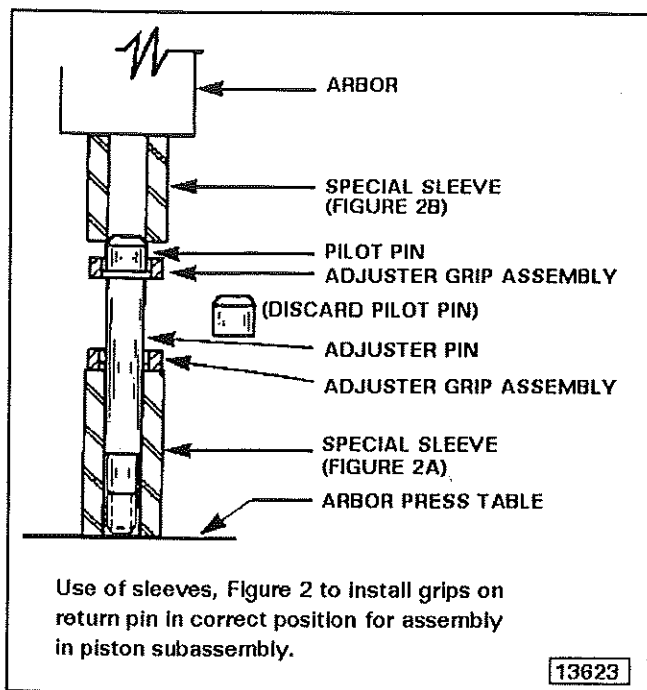

FIGURE 9 - INSTALLING ADJUSTER GRIPS ON ADJUSTER OR RETURN PIN
a. Position the adjuster grip and pilot pin (12) on the end of an adjuster or return pin (6).
b. Press the adjuster grip off the expendable pilot pin on to the adjuster or return pin as shown in Figure 9.
a. Install the inner spring guide (13) in the piston cavity.
b. Install the pilot pin (12) with grip assemblies installed on the adjuster or return pin (6).
c. Install the outer spring guide (11).
d. Install the return spring (10).
e. Install the pin retainer (9).